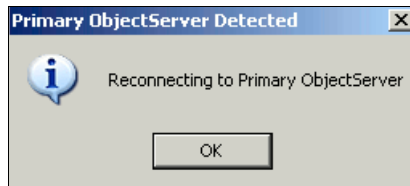

Figure 5-6 Reconnect or fallback message
6. Wait until the desktop client connects to the Master ObjectServer, as shown in Figure 5-6.